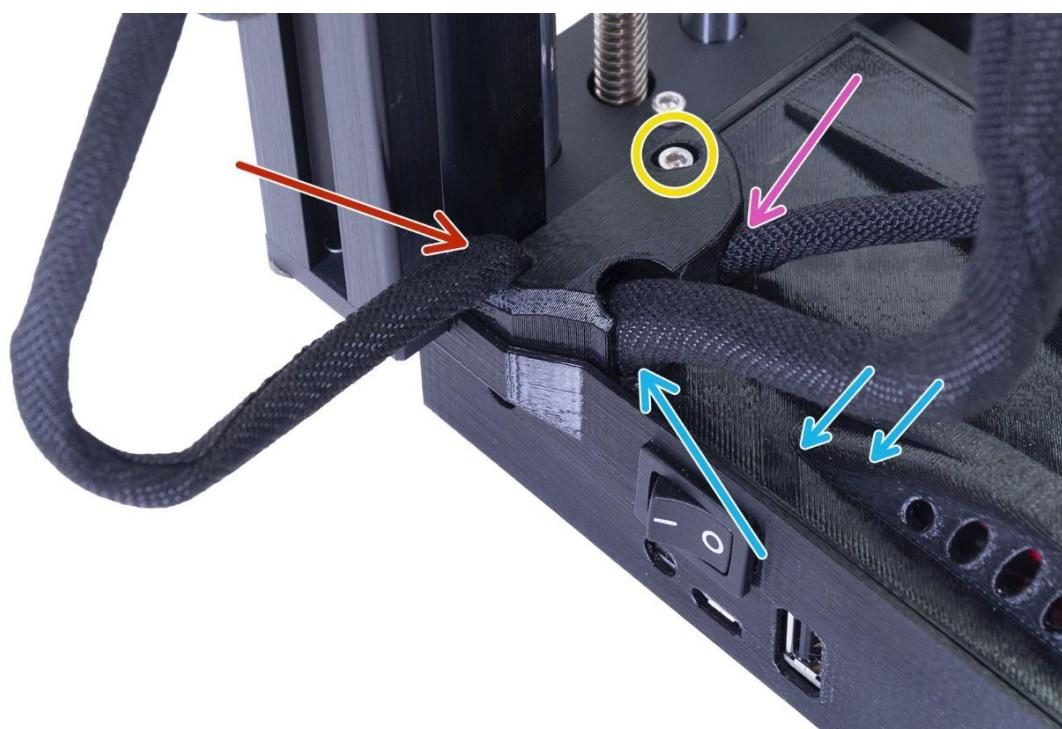

Figure 5.3.2
**Step 5-3-2:** As shown in Figure 5.3.2.